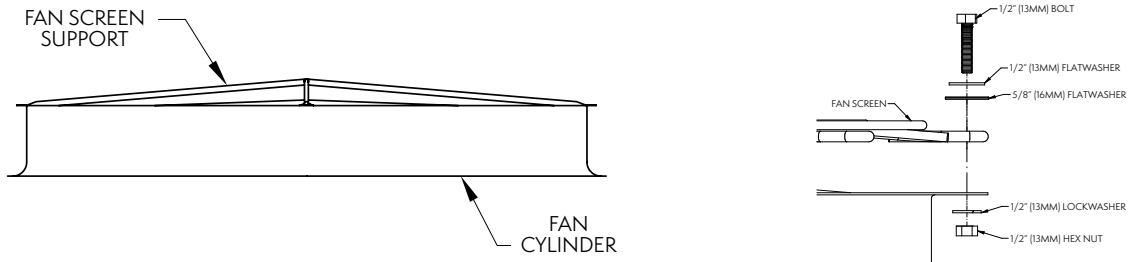

Figure 24 — Fan Screen Support & Fan Screen Installation
1. Set the fan screen support across the top of the fan cylinder as shown in **Figure 24**.
4. At each hole, attach the fan screen to the fan cylinder as shown in **Figure 24**.